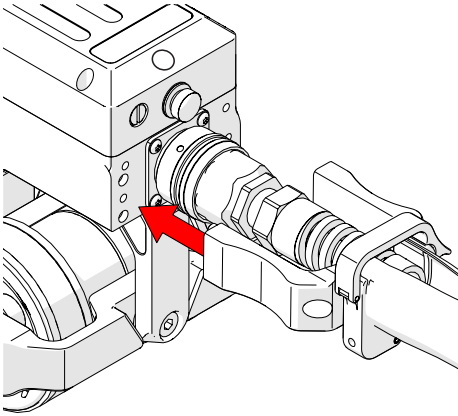

Fig. 137 - Align with umbilical
1. Align the cable management clamp with the appropriate mounting position on the umbilical (Fig. 137).